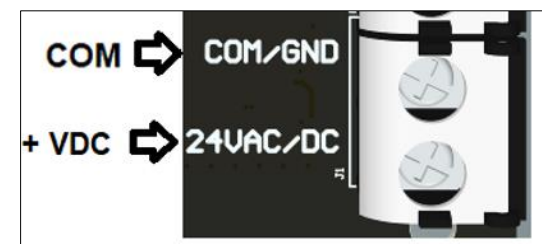

Figure 2. 24VDC connections
8. DC Powered: Connect the DC power supply wire (+) to 24VAC/VDC and (-) to COMMON. See Figure 2.